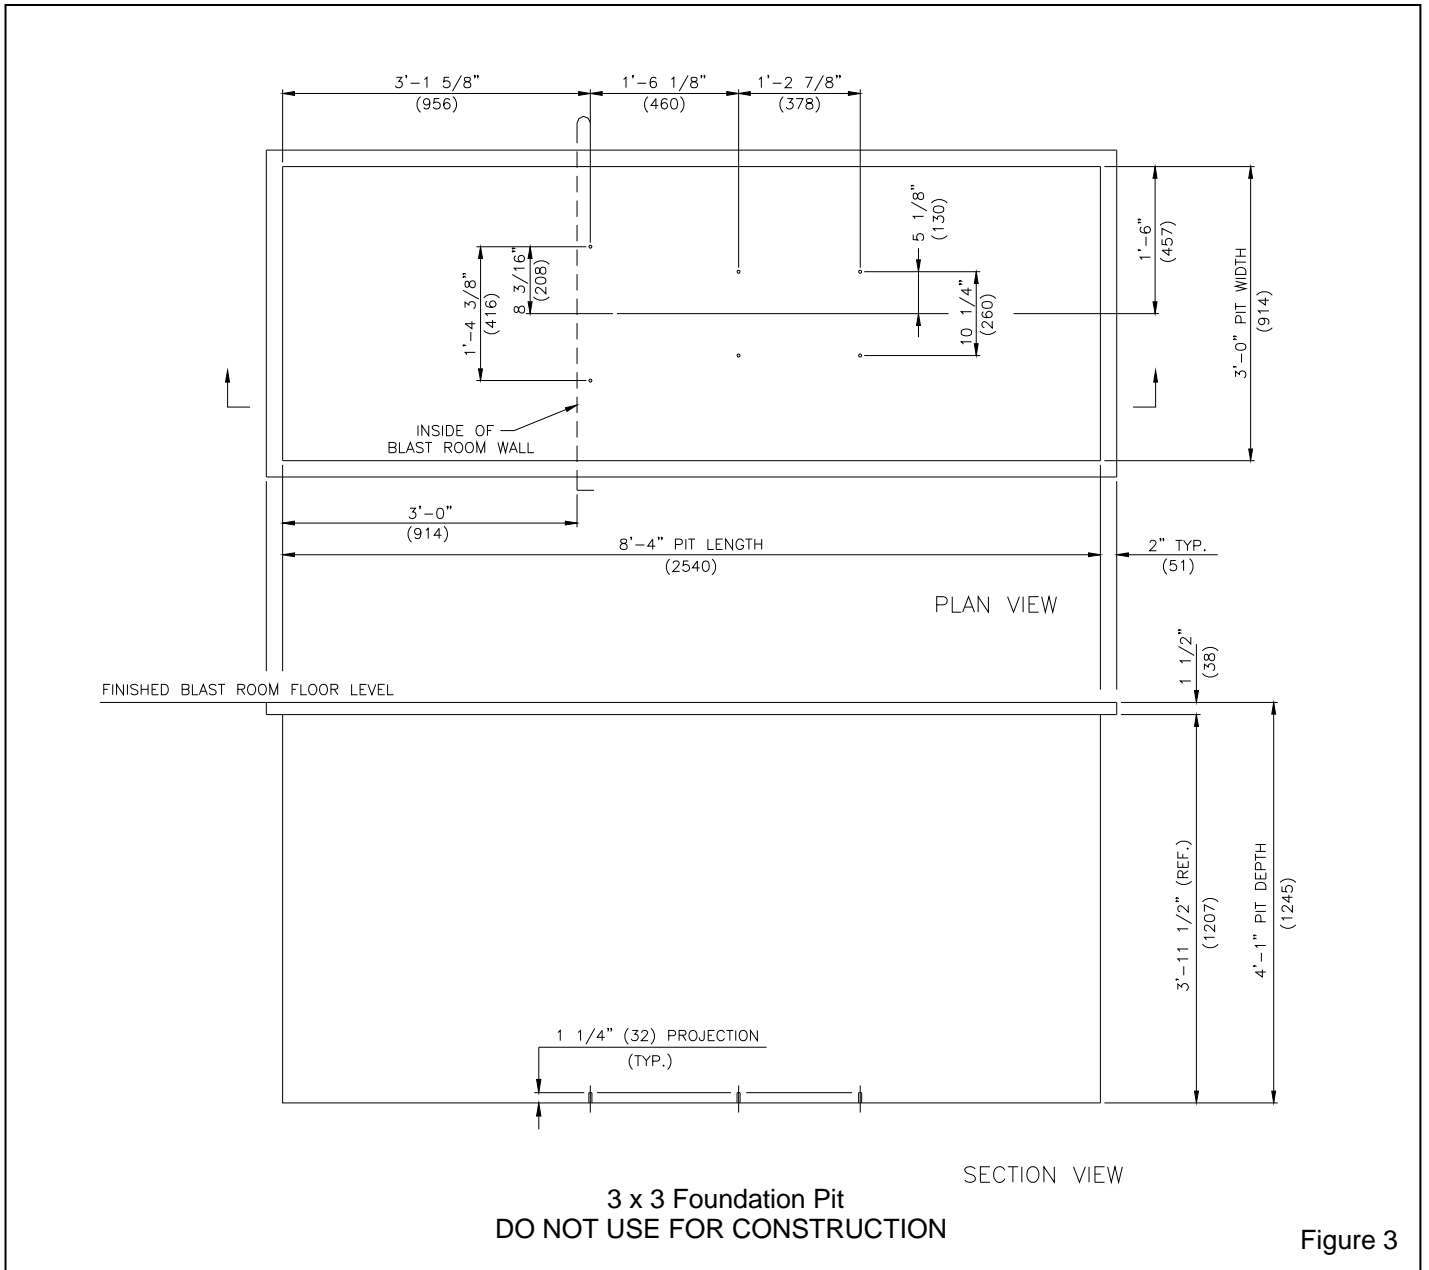
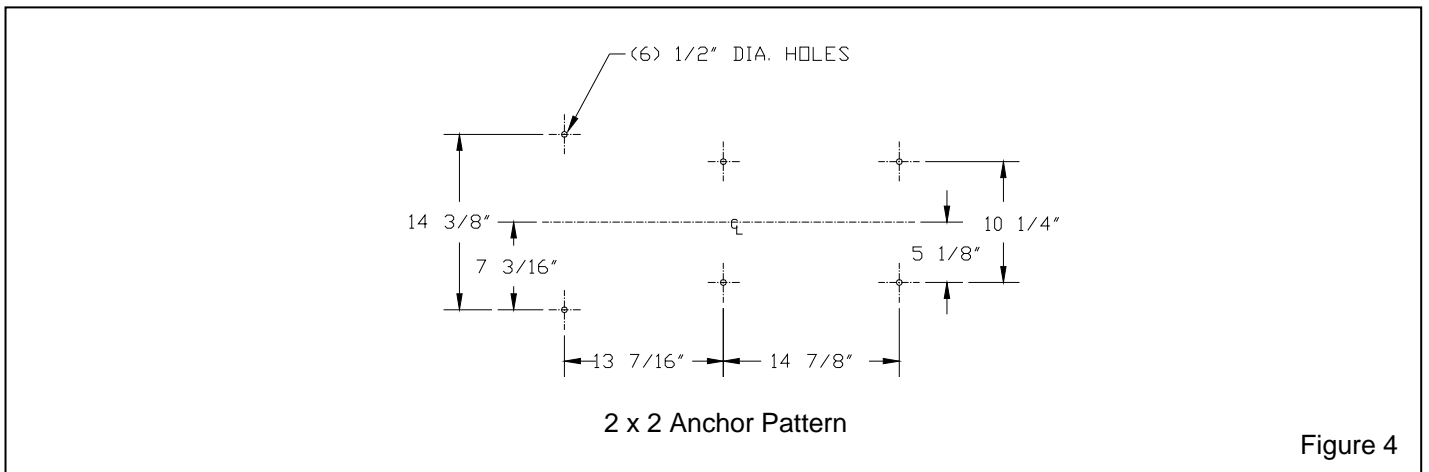

Figure 3
Figure 4
1.5.1 Prior to installation of a 3 x 3 system, a foundation pit must be poured. All foundation work is provided by the purchaser. The illustration in Figure 3 is exemplary only, and subject to change. A foundation drawing is provided with the 3 x 3 system, refer to the drawing before excavating and pouring the foundation pit. The illustration in Figure 4 shows the anchor pattern for a 2 x 2 system.